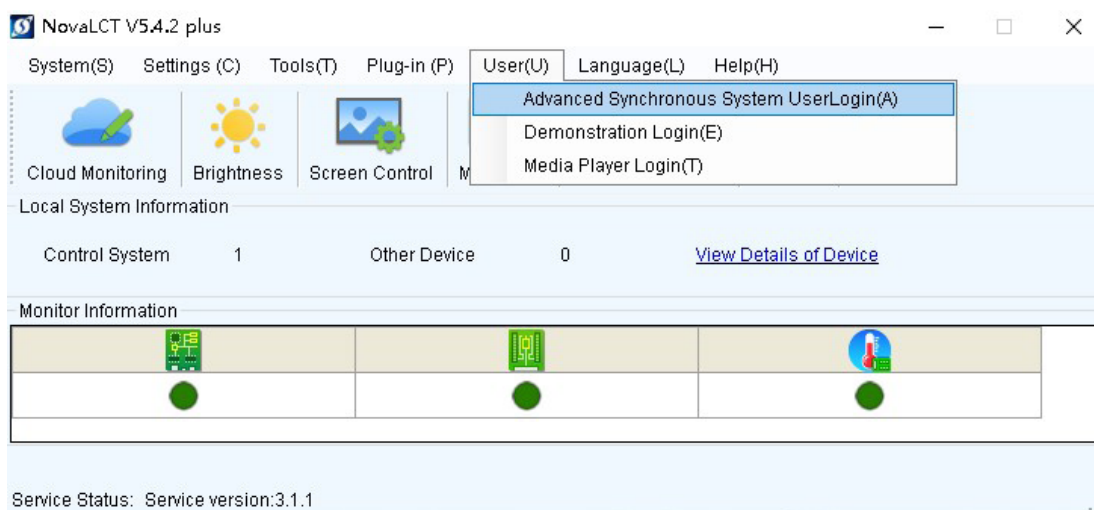

Figure 1-1
1. Select Advanced Synchronous System User Login(A). See Figure 1-1.